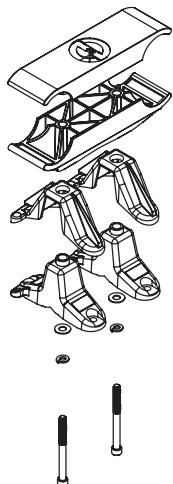

Figure 3
4. Place the **Bottom Tube Clamp** on top of the tubes and using **¼ inch Hex Wrench** secure **Mounting Clamp Assembly** with **3.5" King Bolt** as shown in **Figure 3**